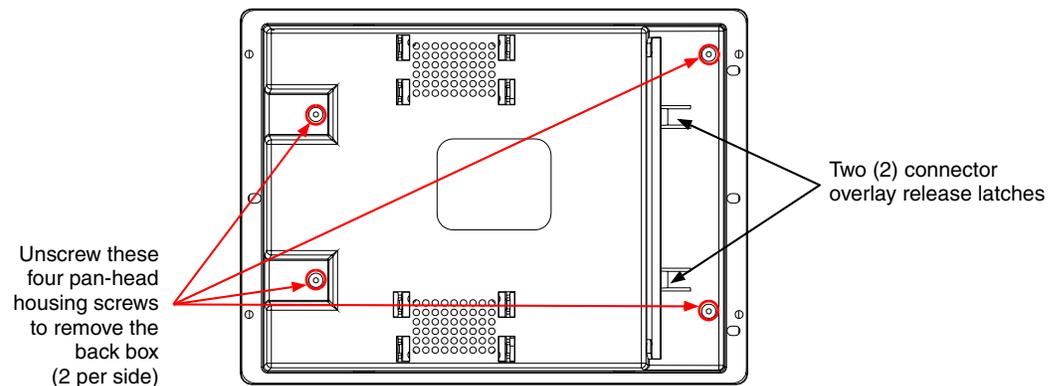

FIG. 20 Location of the attachment screws and connector overlay release latches on an NXD back box
3. Place the LCD facedown on a soft cloth to expose the under-side of the unit (FIG. 20) and prevent scratching of the LCD.
6. Unscrew the outer housing (back box) by using a grounded Phillips-head screwdriver to remove the two sets of pan-head Housing Screws, located on other side of the connector overlay (FIG. 20).